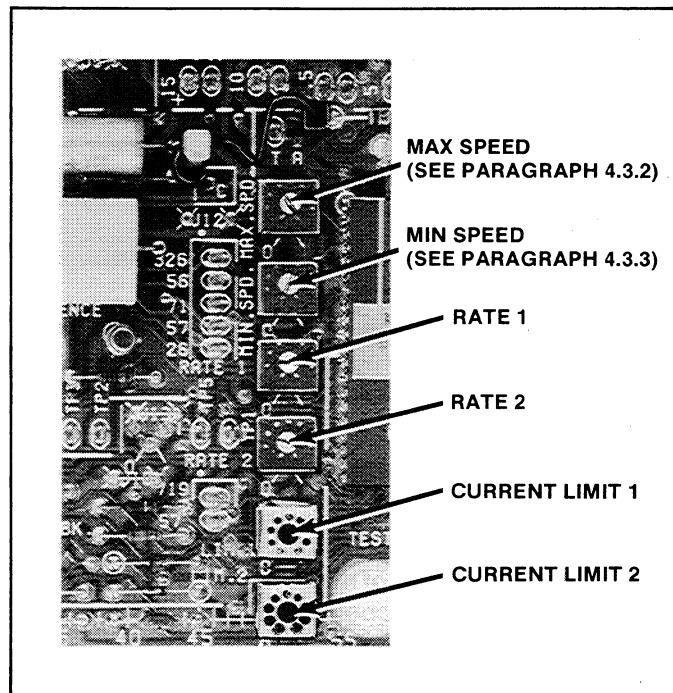

Figure 4.1. Regulator Module potentiometers.
Locate the Maximum Speed Potentiometer on the Regulator Module. (Refer to Figure 4.1.) The letters MAX SPD are printed on the Module. Note that CW rotation represents an **increase** in speed. CCW represents a **decrease**.
4.3.1 Regulator Module Potentiometers — The Regulator Module has six adjustable potentiometers mounted on it. (Refer to Figure 4.1.) They control the following functions:
- Maximum speed (full CCW: 50% speed)①
- Minimum speed (full CCW: nearly zero speed)①
Step 4 — Locate the RATE 1 potentiometer on the Regulator Module. (Refer to Figure 4.1.)